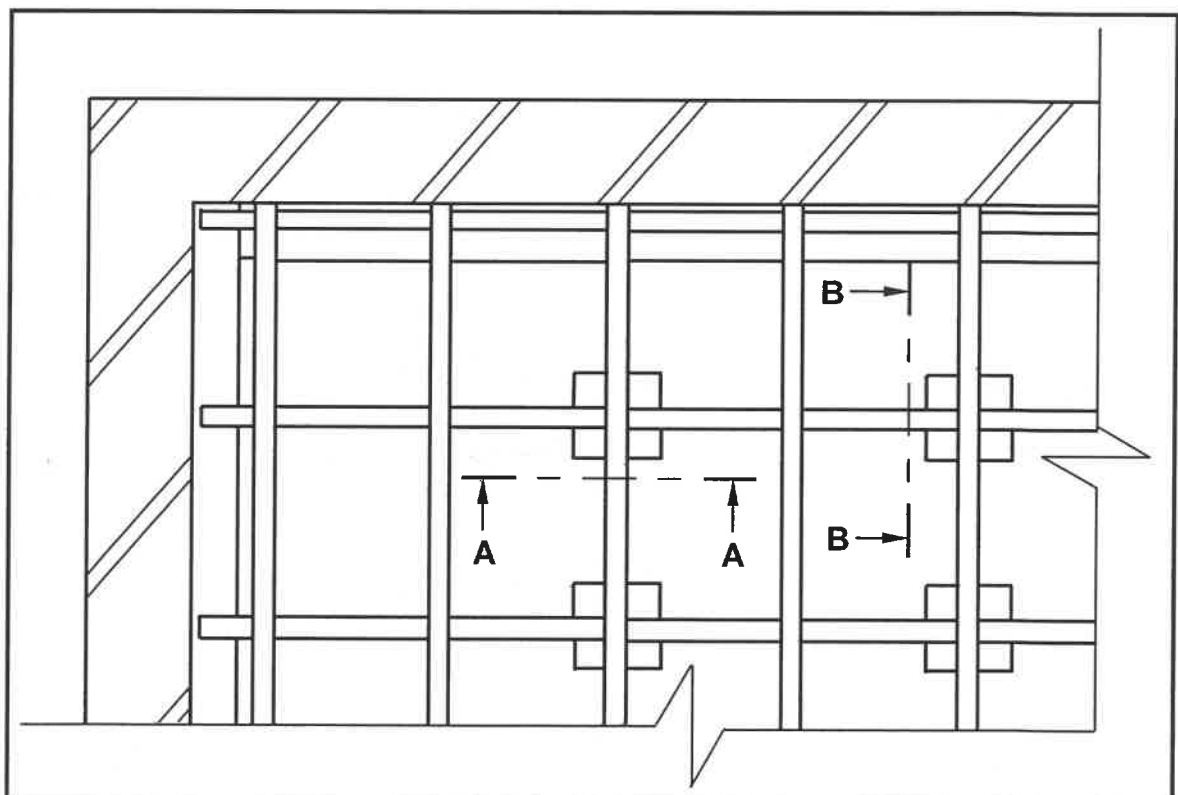

FIGURE 6.5
6.5 FIGURE 6.5 below shows the top view of part of a suspended timber floor with two cutting lines indicated. Use the detail on ANSWER SHEET 6.5 and complete the sectional views by differentiating between the sectional views as seen from **A-A** and **B-B**. Draw the floorboards on both sectional views.